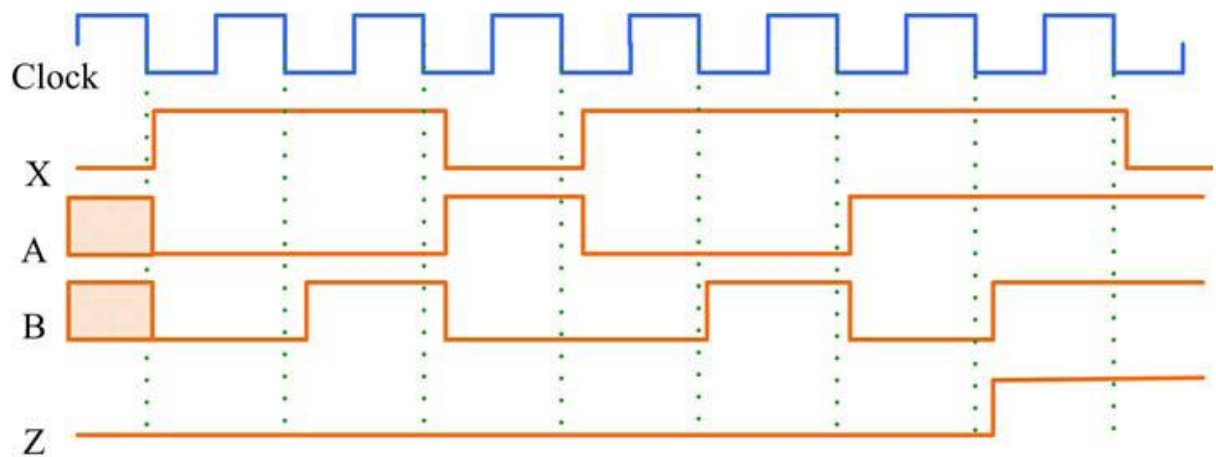

Figure 9: Timing Diagram for Moore Model Sequence Detector.
- The timing diagram for Moore machine model is also shown in Figure 9.